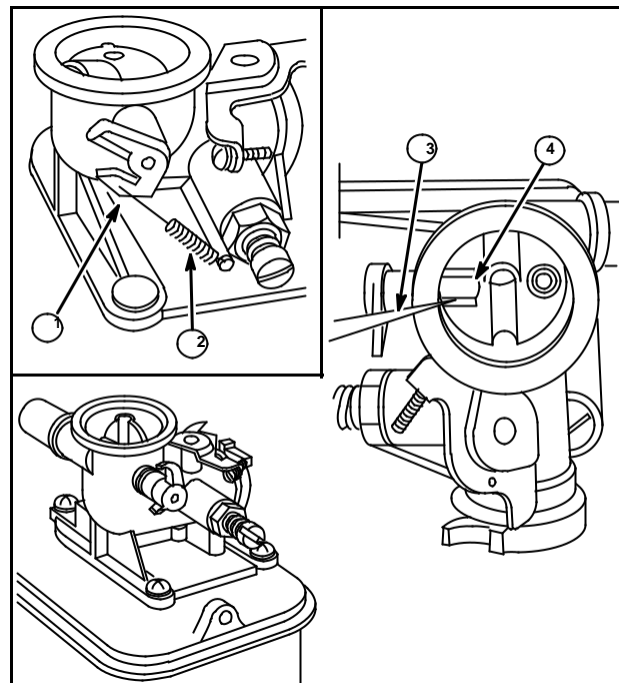

Fig. 30
1. To remove choke parts, disconnect choke return spring (2) (when used), from lever (1) Fig. 30.
2. Pull nylon choke shaft (4) sideways to separate choke shaft from choke plate.